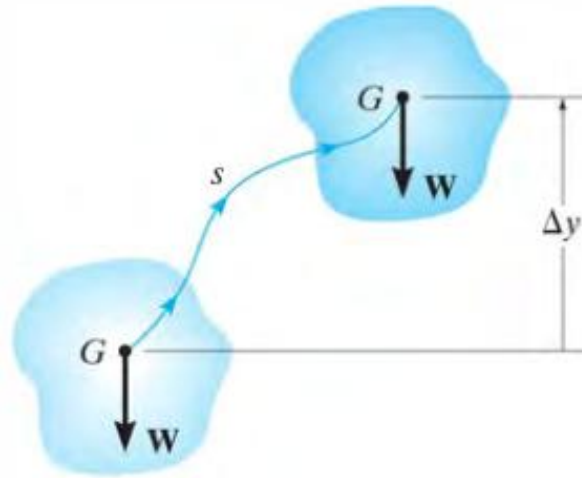

Figure 2. Work of force of gravity
- The weight of a body does work only when the body's center of mass  $G$  undergoes a vertical displacement  $\Delta y$ . If this displacement is upward, Fig. 2, the work is negative, since the weight is opposite to the displacement.